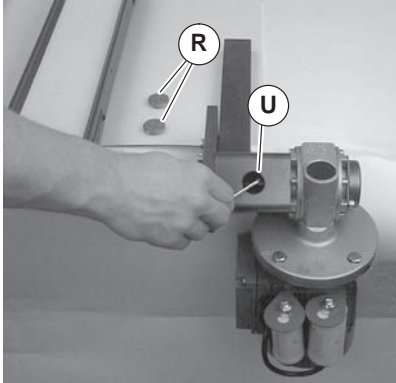

Figure 10
- Tighten coupling set screws (Figure 10, item U). Replace inspection plugs (R).